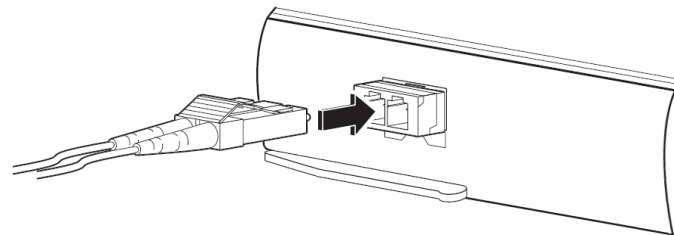

Figure 6: Connecting the cable to SFP+ Module
3. Insert the fiber cable into the module, as shown in Figure 6.